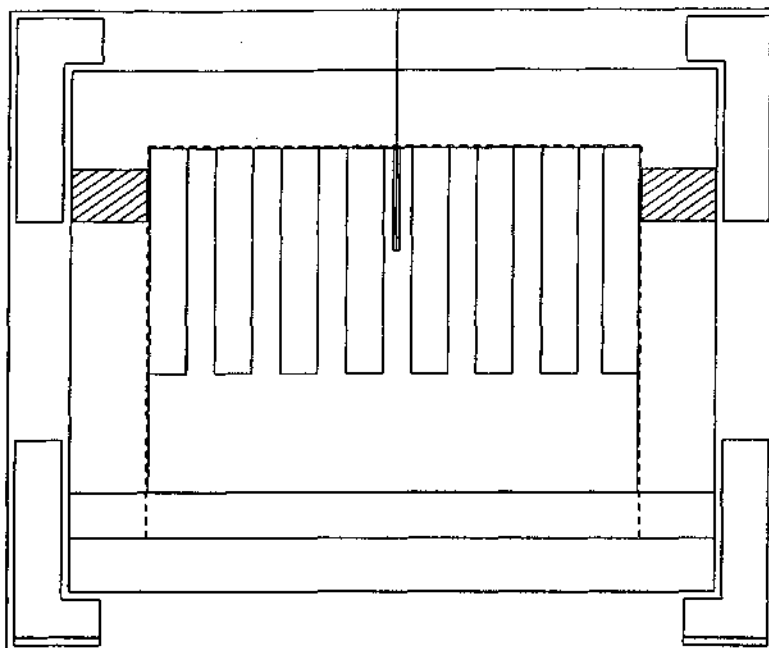

Figure 3
5. Introduce the plate P/N 50058 inside the muffle with heating elements turned to the rear side of the muffle in close contact with the thermocouple (Figure 3)
6. Place the front frame P/N 50059 on the front ceramic supports to perfectly position the muffle (Figure 3).